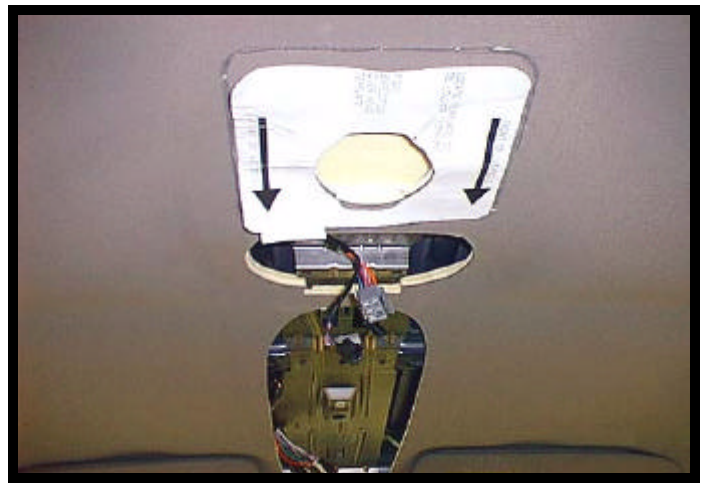

Figure 1
1. Place template provided (item 12 pg 2) over center A/C vent hole with arrow pointing forward. Cut and remove indicated headliner. See Figure 1.